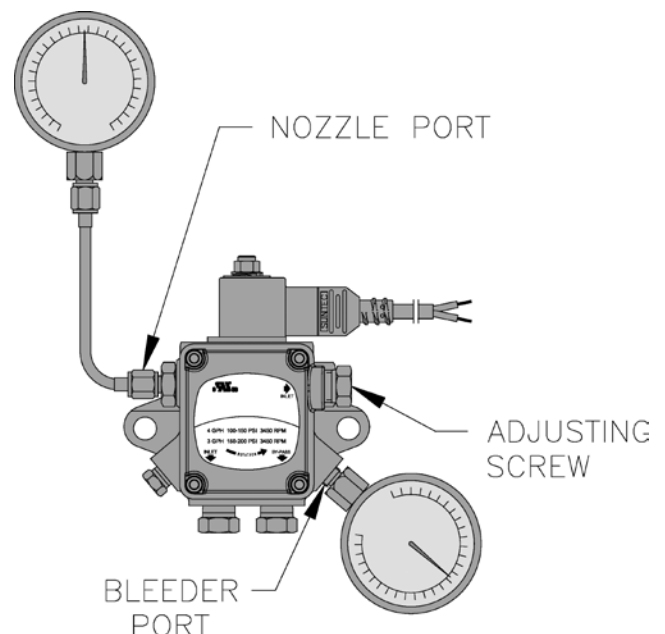

Figure 37: Adjusting Fuel Pump Pressure
- a. When checking a fuel unit's operating pressure, a reliable pressure gauge may be installed in either the bleeder port or the nozzle port. Refer to Figure 37.